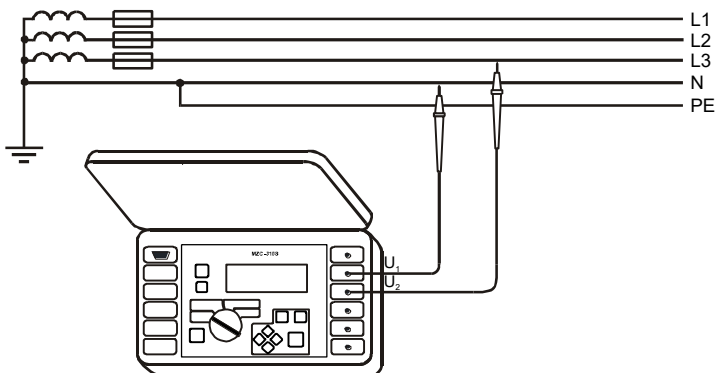

Fig.9. Alternating voltage measurement
The meter is connected to the tested installation as shown in Figures 9 -19. Attention should be paid to the correct selection of test terminals since the precision of the measurements being performed depends upon the quality of connections made. They have to provide a good contact and allow for undisturbed flow of high current measured. For instance, it is unacceptable to clip the crocodile connectors onto oxidized or corroded points – they have to be either cleaned beforehand, or the test needle tip probe should be used for measurements.
- Connect the test cables to sockets: **4** U_1 and **5** U_2 (Fig.9)